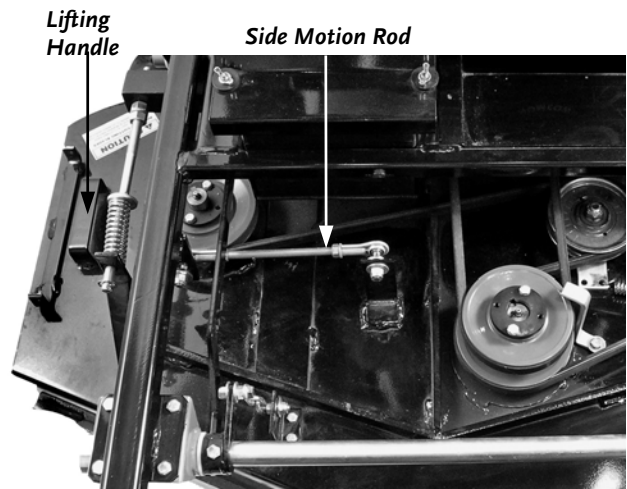

Figure 18
7. Using a 9/16" Wrench, remove one end of the Side Motion Rod (**Figure 18**).